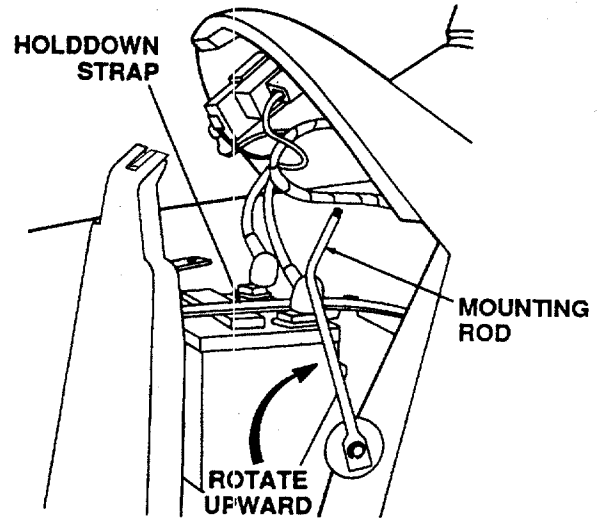

Figure 28
3. Rotate the mounting rod fully upward toward the dash panel to provide clearance for battery removal (See Figure 28).